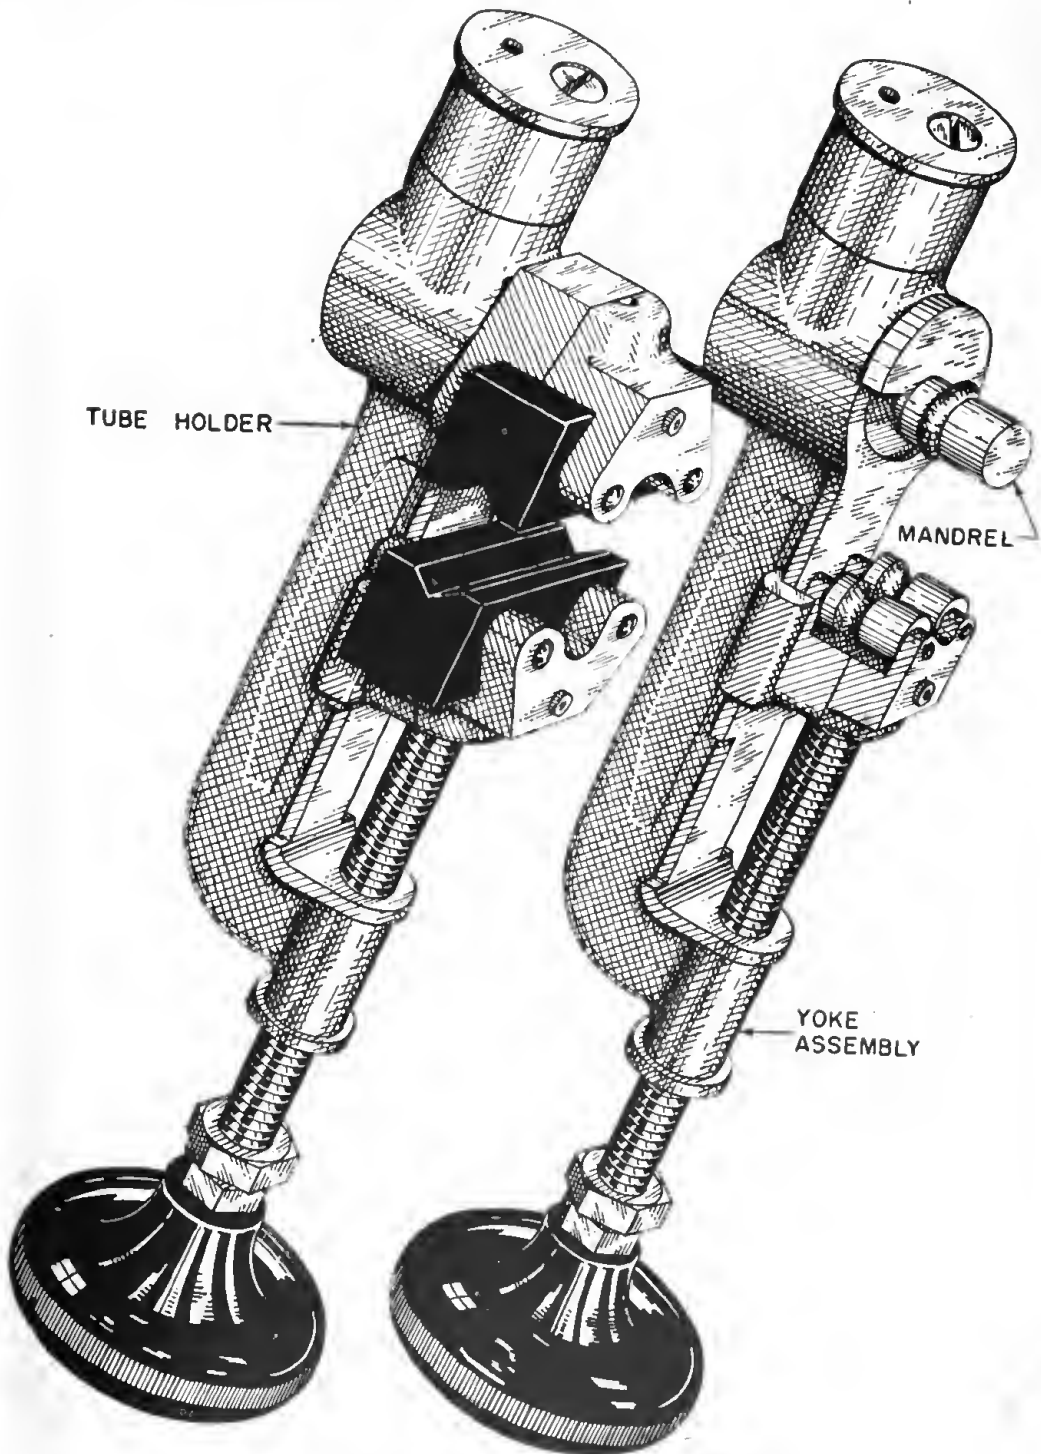

Figure 167. Tools for beading large tubing.
(2) For beading larger tubing, the tools shown in figure 167 are used. The end of the tubing is slipped over the mandrel and the handle of the yoke assembly is turned until the rollers bear against the outside of the tubing. The tube holder is then placed on the tubing (as near the yoke assembly as possible) and tightened. The yoke assembly is then rotated around the tubing. The handle should be tightened a little each turn until a bead of the desired height has been produced.